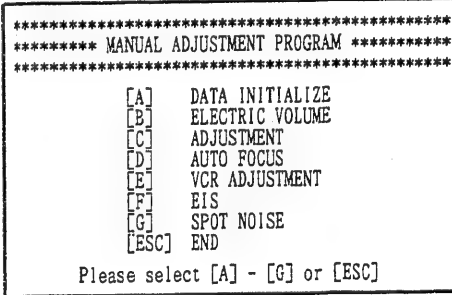

Fig. 3-3
(1)	FM Carrier Adjustment				●		●
- If **ESC** (escape) is pressed, the computer's display returns to Fig. 3-3 (MAIN MENU).
- 2) Press **[E]** to select VCR ADJUSTMENT. (Figs. 3-3, 3-4)